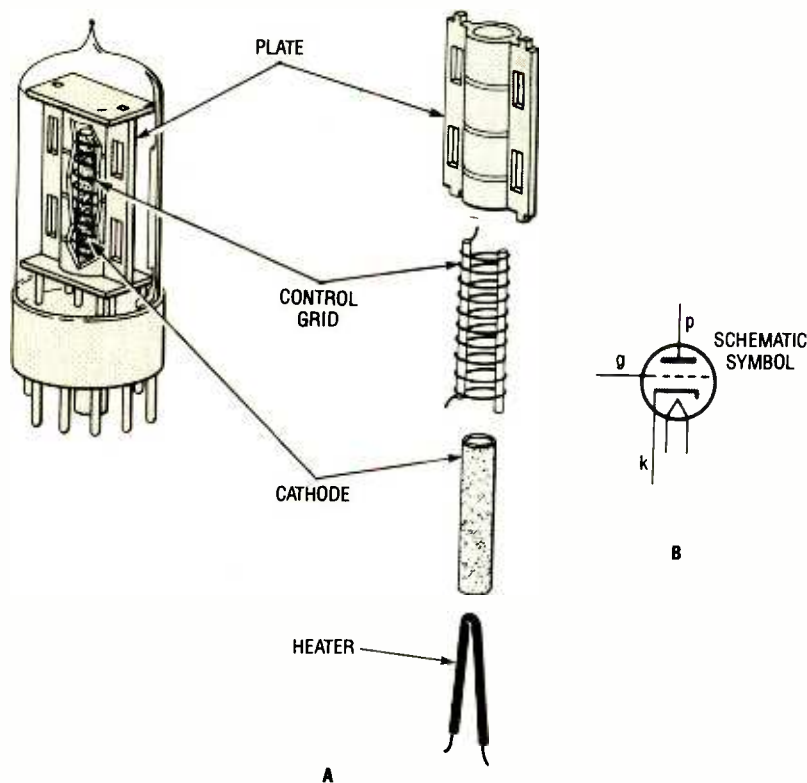

Fig. 5. The triode is useful for amplifying signals at its control grid, much the way a transistor amplifies signals at its base in common-collector mode.
**The Triode.** The invention of the triode by Dr. Lee de Forest in 1907 provided a means for the amplification of electronic signals. That tube is very similar to the diode, but has an additional, third electrode, hence the name "triode." Figure 5 shows the basic construction of a modern, indirectly heated triode. Notice that the